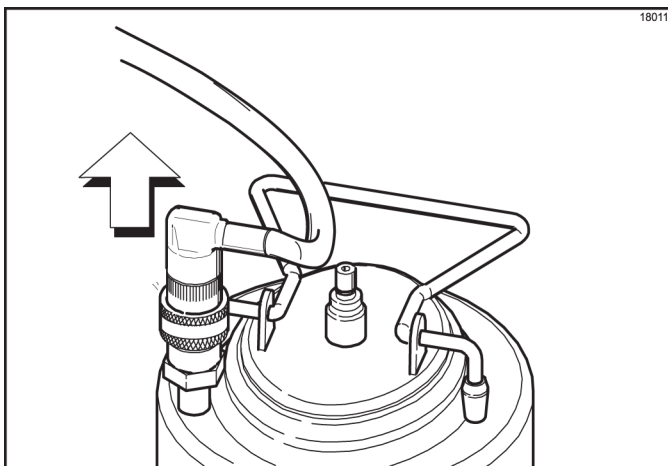

Figure 6-57
2. Disconnect the syrup line after you have disconnected the air line. (See Figure 6-57.)